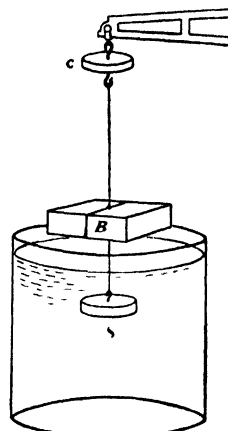

FIG. 18
**I. By weighing first in air and then when immersed in water with the aid of a sinker.** If a body is lighter than water, the weight of an equal volume of water may be obtained with the aid of a sinker. Use a wooden block *B* (Fig 18) which has been paraffined so as to prevent the absorption of water. Weigh the block alone in air and then with the sinker *S* attached, the block being in air and the sinker *S* in water, as shown in the figure. Lastly, weigh when the block and the sinker are both under water. The difference between the second and the third weighing is evidently the buoyant effect of the water on the block alone, that is, it is the weight of the water displaced by the block, and hence it is also the volume of the block. From this difference and the weight of the block in air obtain the density of the block of wood used in this experiment.